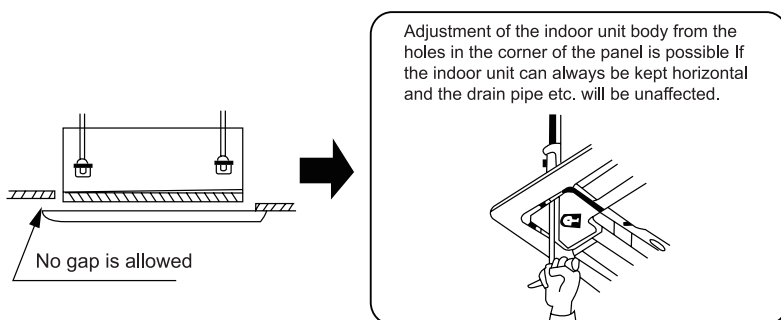

Fig.36
- (3). If gap still exists between ceiling and decoration panel after tightening the screws, readjust the height of the indoor unit. (Fig.36)